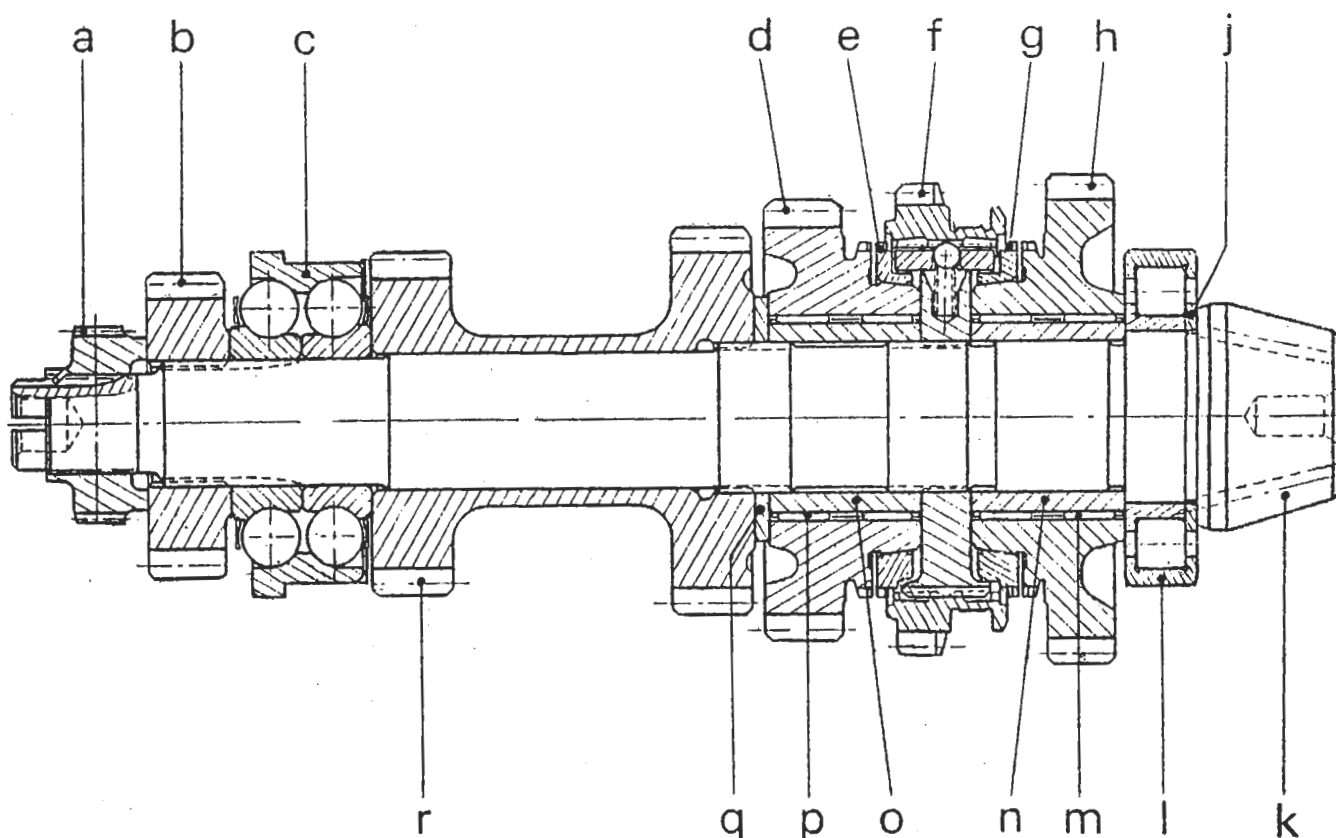

Fig.8 Bevel pinion assembly
8. Measure the thickness of the adjusting washer (q) figure 8 which for this example is: 2.81 mm. Replace this washer by another with a thickness calculated in the following manner: